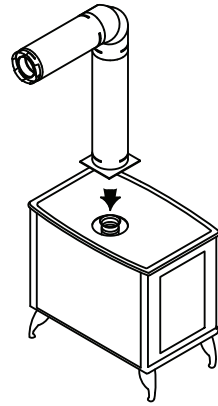

Figure 4
**Step 2.** DirectVent Pro pipe and fittings are designed with special twist-lock connections. To connect the venting system to the appliance flue outlet, a twist-lock Appliance Adaptor is required. With some brands of appliances, the DuraVent Appliance Adaptor will be built into the appliance at the factory. With other brands the adaptor will be supplied by the appliance manufacturer for installation in the field. Assemble the desired combination of Pipe Sections and Elbows to the Appliance Adaptor (**Fig. 4**).